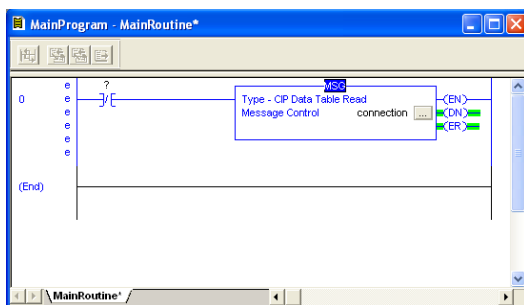

Figure 58: MainRoutine
- e) Click "OK" to close the MSG Configuration dialog. At this stage, MainRoutine should look like Figure 58.